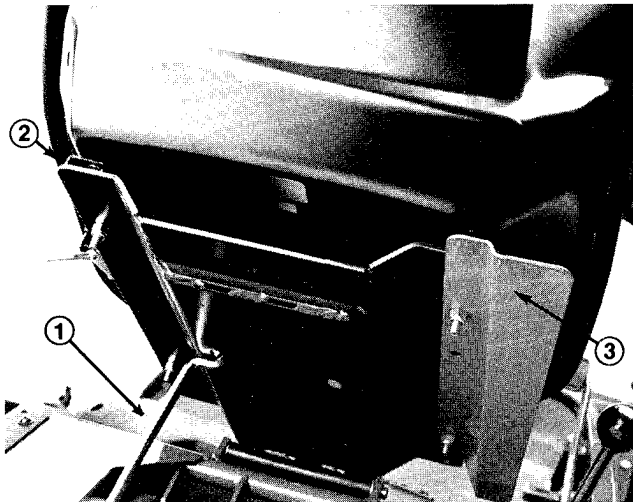

Figure 3
MOUNT SEAT (Fig. 3)
3. Secure seat, seat panel and seat slides to seat support with 5/16–18 lock nuts supplied in loose parts. Seat cover to be mounted on right side, positioned as shown in fig. 3.